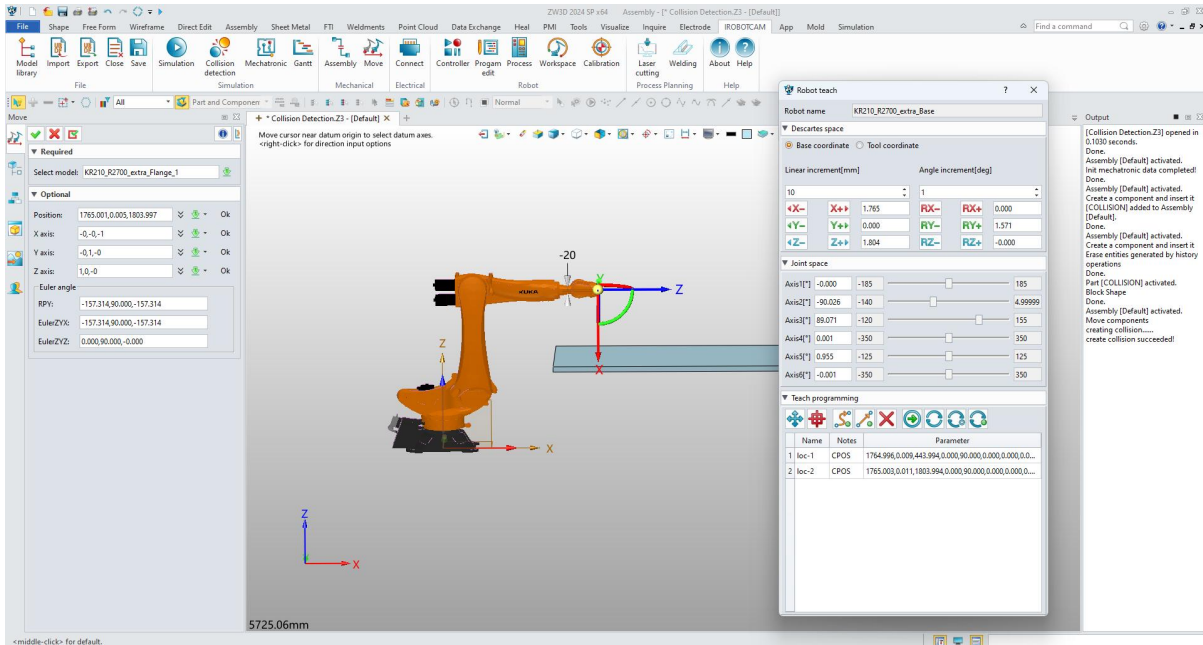

Figure 11-18: Second marker
- Close drag teach window and add a record point above the hexahedron. (Figure 11-18)